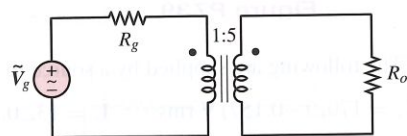

Figure P7.43
7.43 For the circuit shown in Figure P7.43, assume that $\tilde{V}_g = 80 \angle 0^\circ$ V rms, $R_g = 2 \Omega$, and $R_o = 12 \Omega$. Assume an ideal transformer. Find: